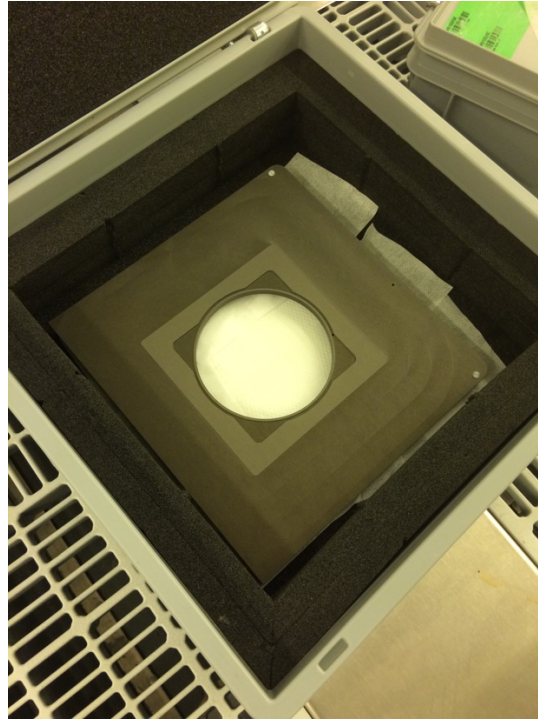

Figure 5: Correct placement of maskholder in storage container. Notice the vacuum lines are facing up.
- ii. Remove the maskholder and place bottom-side/vacuum lines up with the sleeve under it and a large cleanroom wipe over it. Nothing else should be on top of it. See Figure 5.